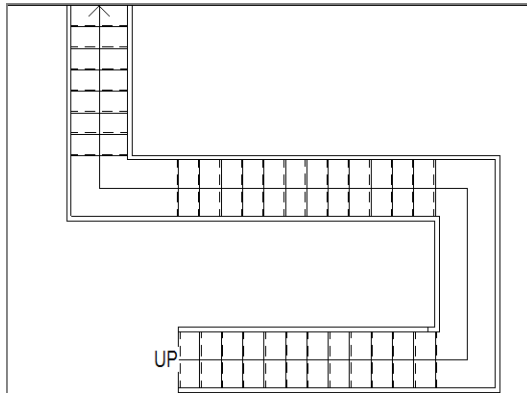

FIGURE 10.68: The stairs as shown in plan
8. Click Finish Sketch. Your stairs should look like Figure 10.68.